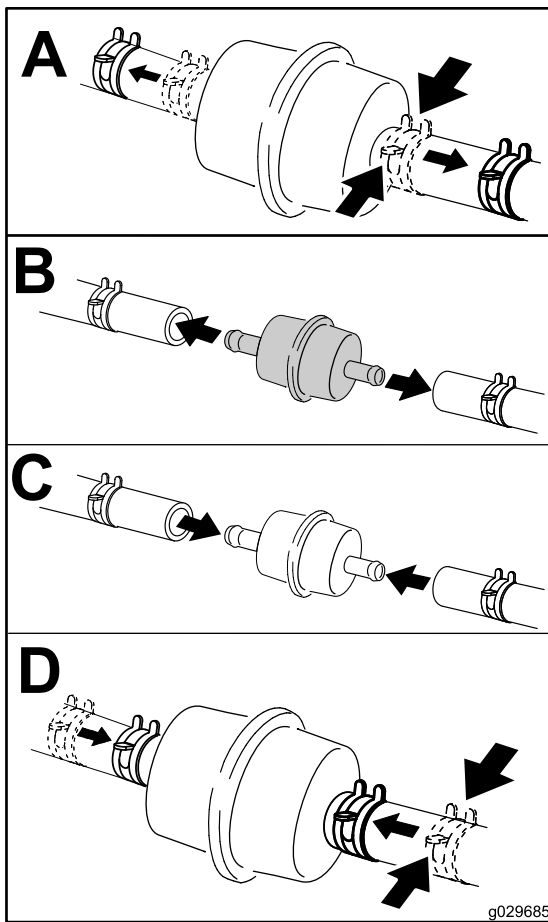

Figure 43
6. Place a clean container under the fuel filter and replace the fuel filter as shown in Figure 43.